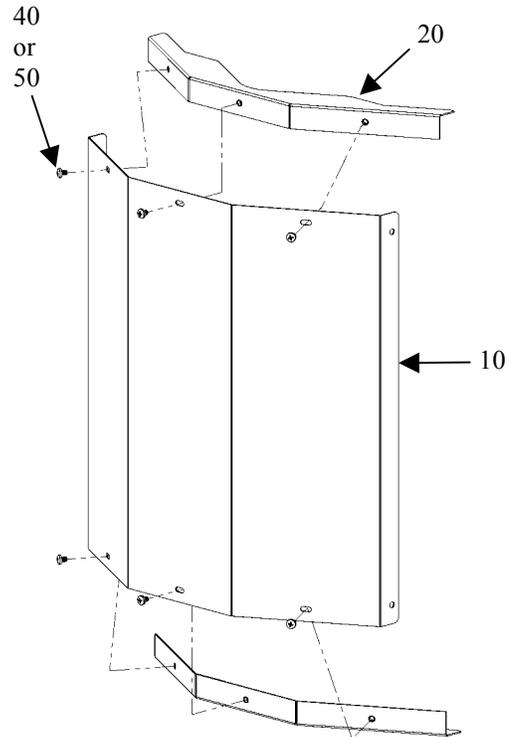

Figure 2. Assemble the Finishing Cover
1. Using three 10-24 x 3/8” pan head cap screws (40) or three 10-24 x 3/8” button head cap screws (50), attach the top cover (20) frame onto the pole mount cover (10). See Figure 2.
2. Repeat Step 1 to attach the bottom cover (20) frame to the pole mount cover (10).